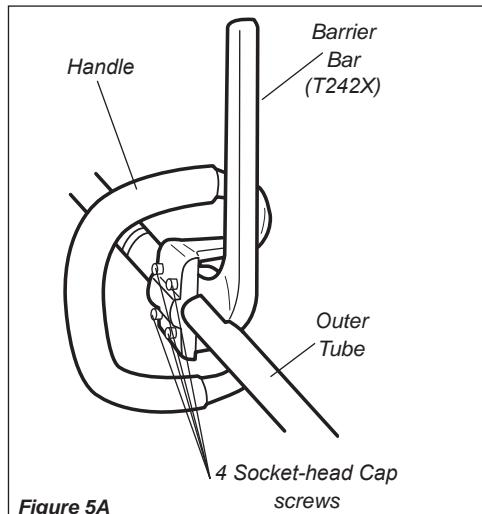

Figure 5A
1. The handle is attached to the outer tube at the factory and positioned vertically. See Figure 5A.